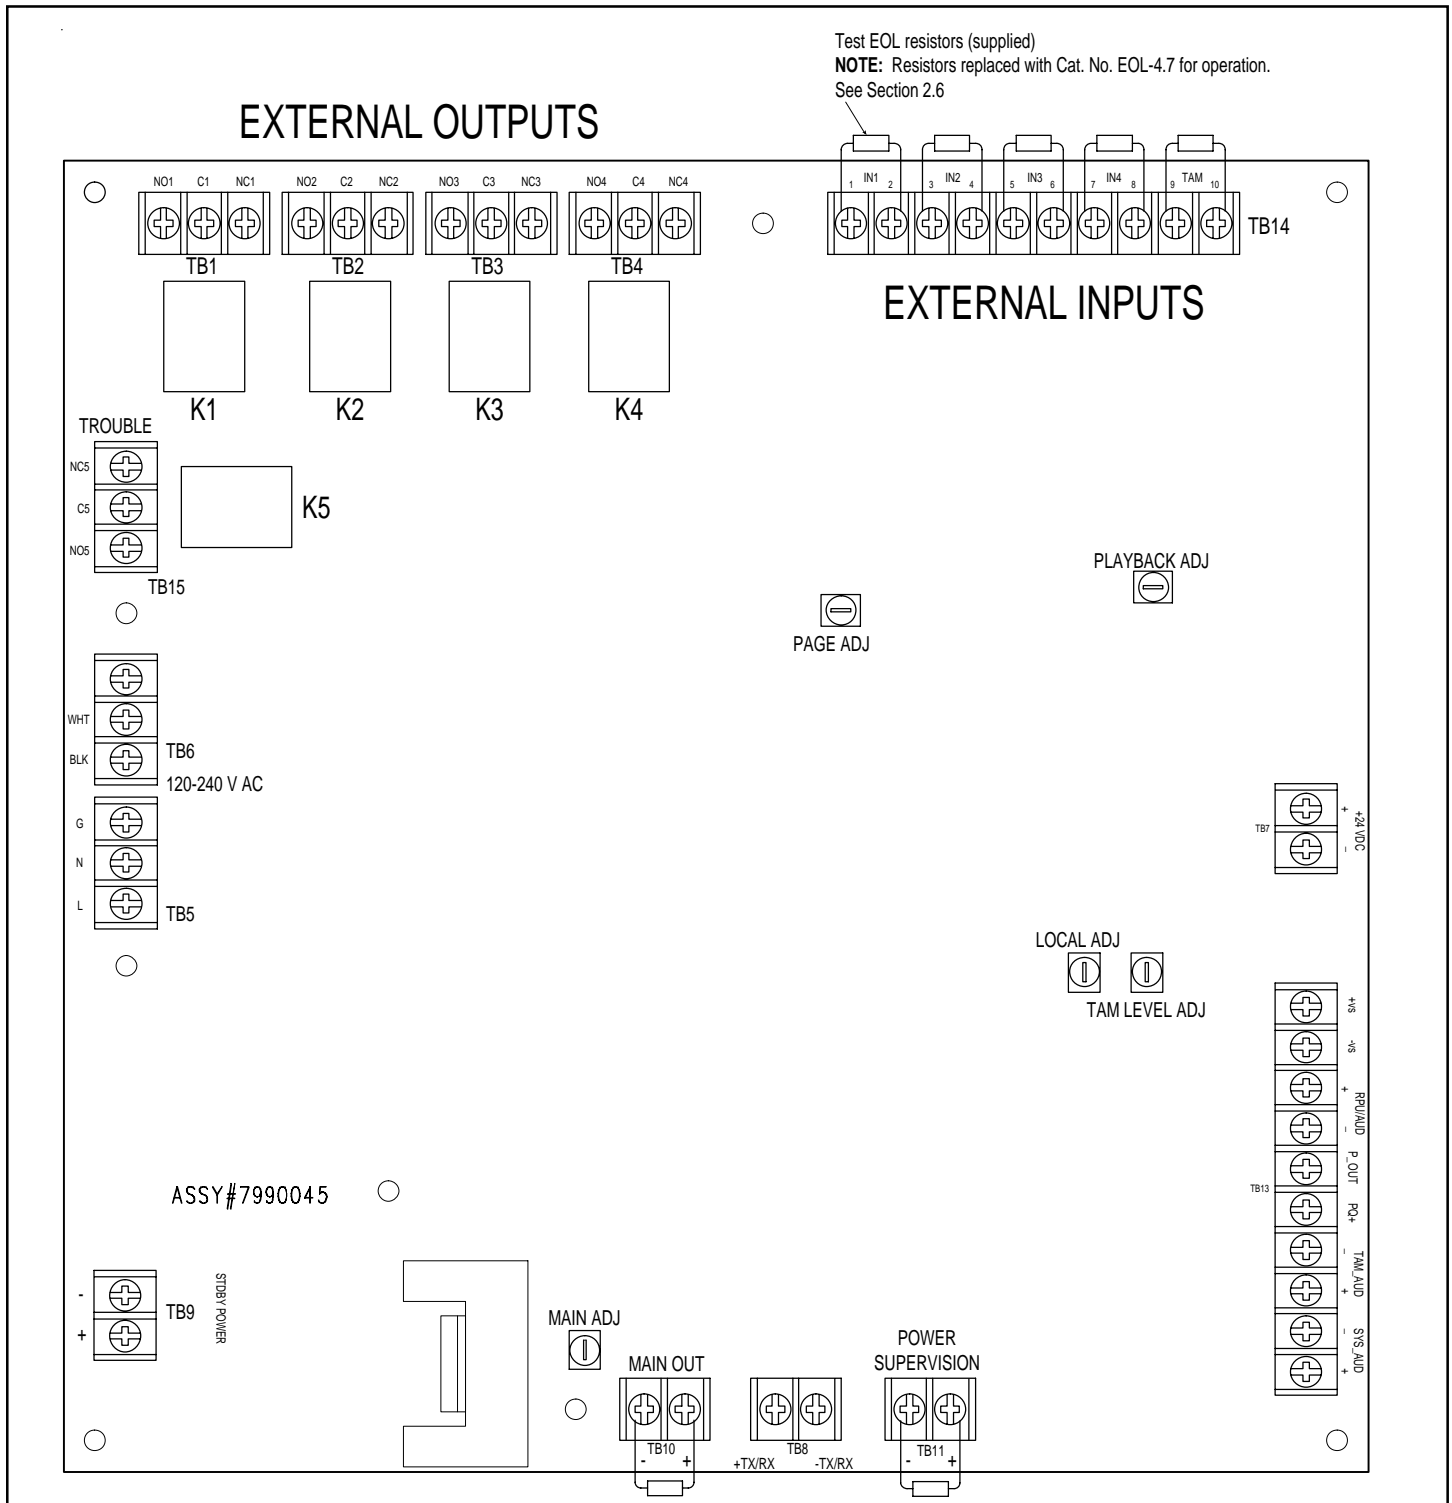
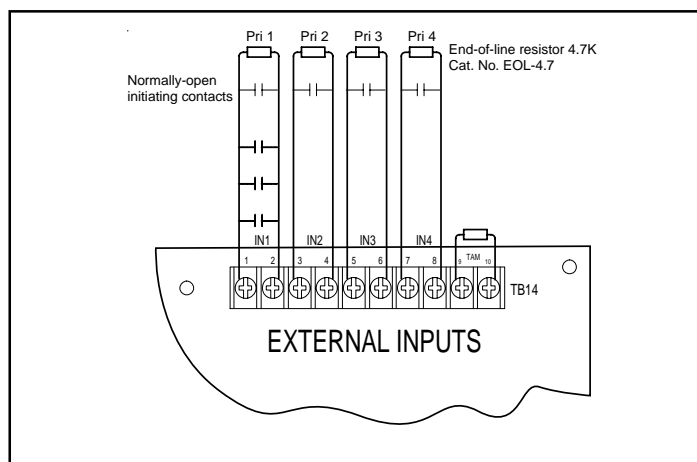

Figure 3. PC Board Locations
Figure 8. Connecting Normally-Open Initiating Contacts
2. Connect green ground wire to terminal "G" on terminal block TB5 (Figures 3 and 4).
3. Connect incoming Neutral to terminal "N" on terminal block TB5. Connect incoming Hot to terminal "L" on terminal block TB5 (Figures 3 and 4).
- When using an auxiliary power supply, connect Stdby Power (-) terminal (TB9) on the panel to the (-) connection on the auxiliary power supply. Connect Stdby Power (+) terminal (TB9) on the panel to the (+) connection on the auxiliary power supply. (See Figures 3 and 5.)
The Millennium System Master is capable of driving up to 64 Satellite Panels. Connect the System Masters together as described here (See Figures 3 and 6).
The Millennium System Master is capable of driving a total of 200 (64 of which can be addressable) 5532M Series speaker/amplifiers. Connect the console to the speaker/amplifiers as described below (See Figures 3 and 7).
2. Connect normally-open initiating contact(s) to input terminals IN1, IN2, IN3, IN4 on External Input terminal block, TB14 (see Figures 3 and 8) as required. Install 4.7K ohm resistors, Cat. No. EOL 4-7, at the end of each circuit as shown in Figure 8.
Up to four loads can be connected to the external output relays. Refer to Figures 3 and 9 for connections and to Appendix C, Panel
Up to twenty-five 5542RPUs can be connected to the panel. The first paging unit connected has the highest priority on the system followed by decreasing priorities for the remainder of the 5542RPU paging units connected in series. (Refer to Figures 3 and 12.)